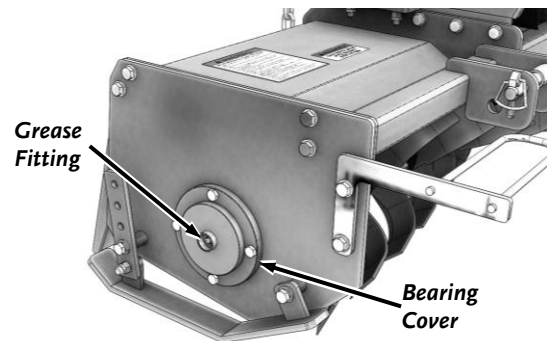

Figure 6
1. Wipe all dirt, etc., from the Grease Fitting on the Bearing Cover with a clean cloth (**Figure 6**).